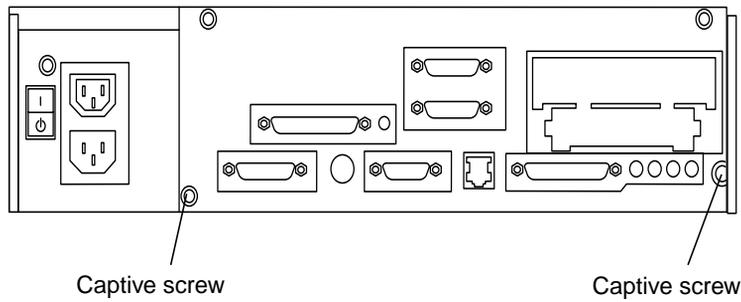

FIGURE 10-2 Captive Screws on the Back Panel
- 7. Loosen the two captive screws that secure the system board back panel to the chassis (FIGURE 10-2).**
- 4. Tighten the two captive screws that secure the system board back panel to the chassis (FIGURE 10-2).**